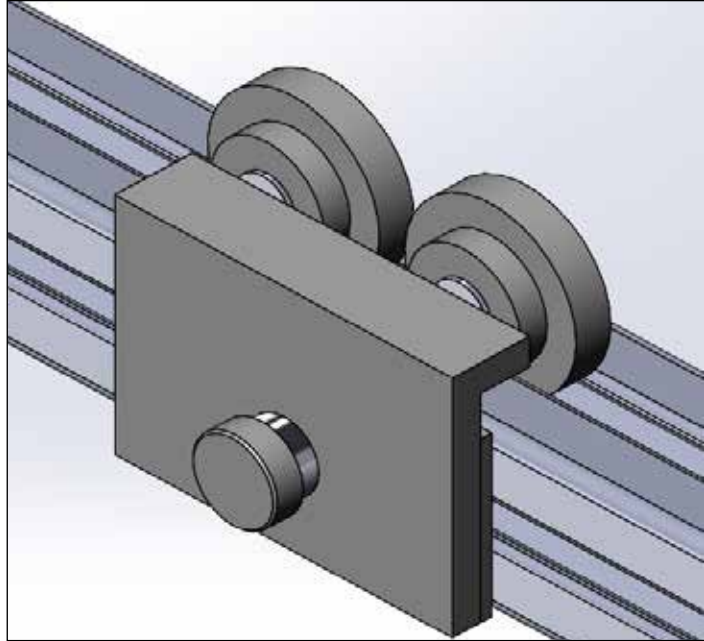

Figure 6
15. After both rails are installed and their placement has been verified, place two roller brackets onto the top rail as shown in **Figure 6**. Remove the cap from both the roller brackets and the rail glides.